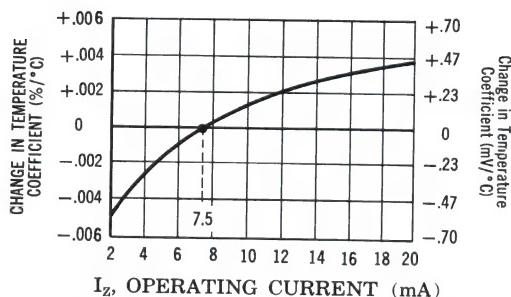

FIGURE 3 Typical change of Temperature Coefficient with Change in Operating Current.
The curve shown in Figure 3 is typical of the diode series and greatly simplifies the estimation of the Temperature Coefficient (TC) when the diode is operated at currents other than 7.5 mA.
EXAMPLE: A diode in this series is operated at a current of 7.5 mA and has specified Temperature Coefficient (TV) limits of  $\pm 0.002\%/\text{ }^{\circ}\text{C}$ . To obtain the typical Temperature Coefficient limits for this same diode operated at a current of 6.0 mA, the new TC limits ( $\%/\text{ }^{\circ}\text{C}$ ) can be estimated using the graph in FIGURE 3.
In conjunction with Fig. 3 this curve can be used to estimate total voltage regulation under conditions of both varying temperature and current.